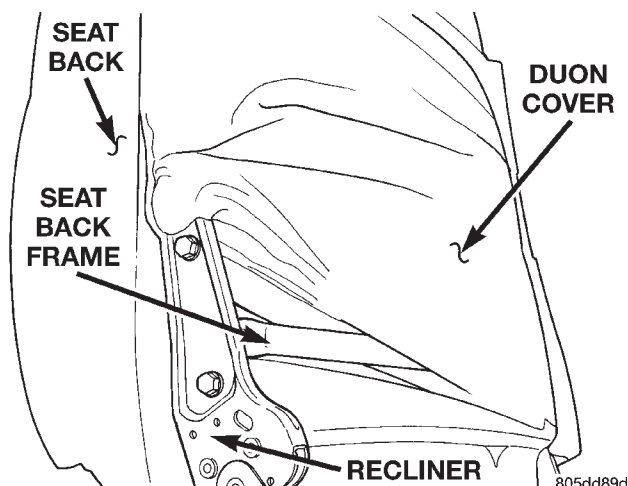

Fig. 6 Power Recliner Upper Bracket Remove/Install
(6) Remove the inboard seat back pivot bolt.
(7) Unplug the wiring connectors, depending upon how the vehicle is equipped, as required to remove the seat back from the seat cushion.
(8) Remove the seat back cover far enough to access the two bolts securing the power recliner adjuster upper bracket to the seat back frame (Fig. 6). Refer to Group 23 - Body components for the seat back cover removal procedures.